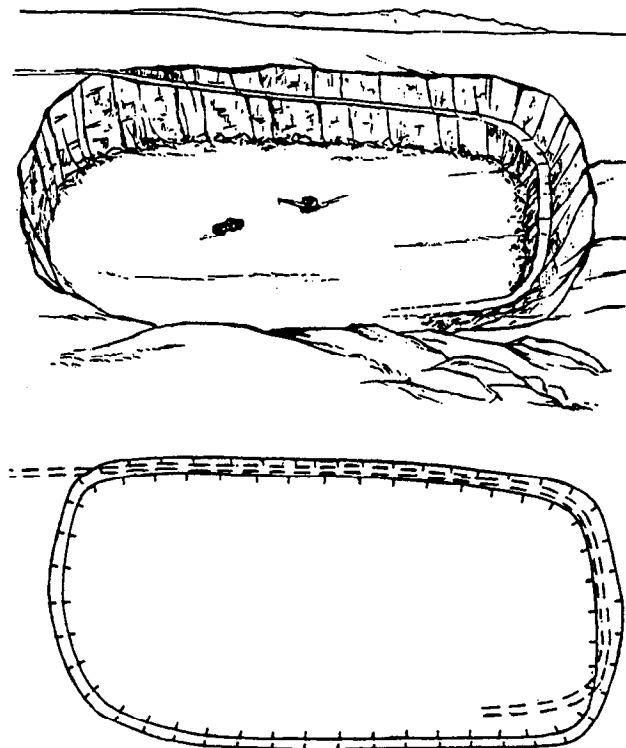

Figure 5-17.—Depression.
9. **DEPRESSION.** A depression is a low point or a sinkhole, surrounded on all sides by higher ground (fig. 5-17).